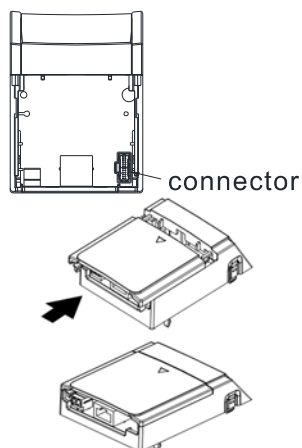

Figure 8-29
7. Attach the upper cover to the installation box for option card, as shown in the Figure 8-29.